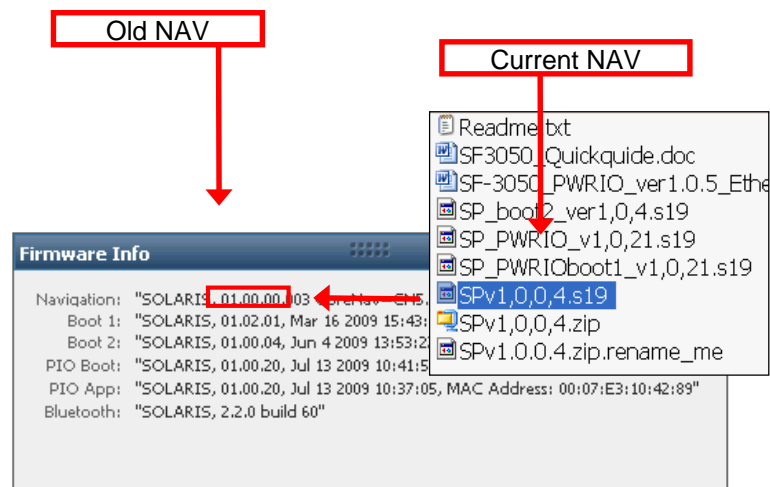

Figure 10: Comparing Current and Installed Firmware
22. Compare the current NAV Firmware version in the Firmware folder with the installed version displayed in the *Firmware Info* window (see Figure 10).